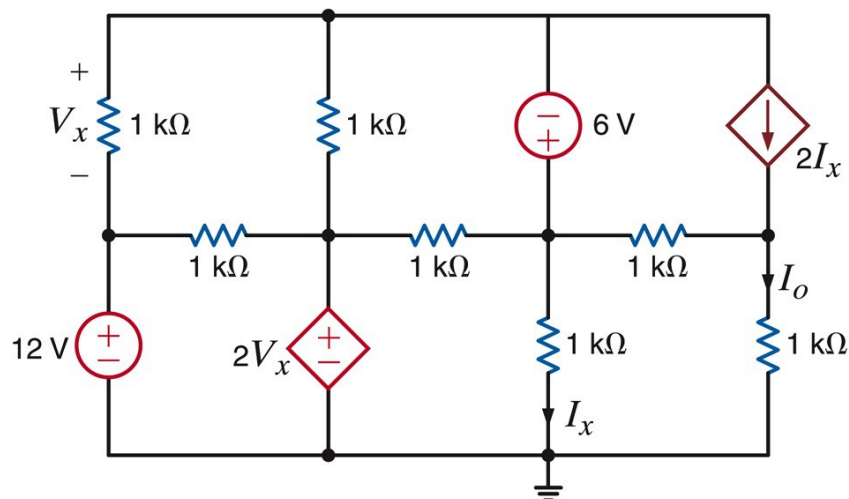

Figure 31: Circuit for Exercise 5
5. Determine  $I_o$  in the circuit in Fig. 31 using MultiSim. Include in your report a screenshot of the schematic and also the simulation results.